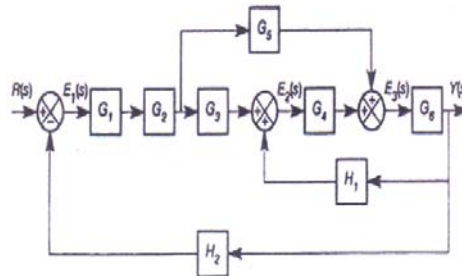

Figure Q 7 (b)
b) Figure Q. 7 (b) shows a block diagram. Simplify and find the transfer function: **[8]**